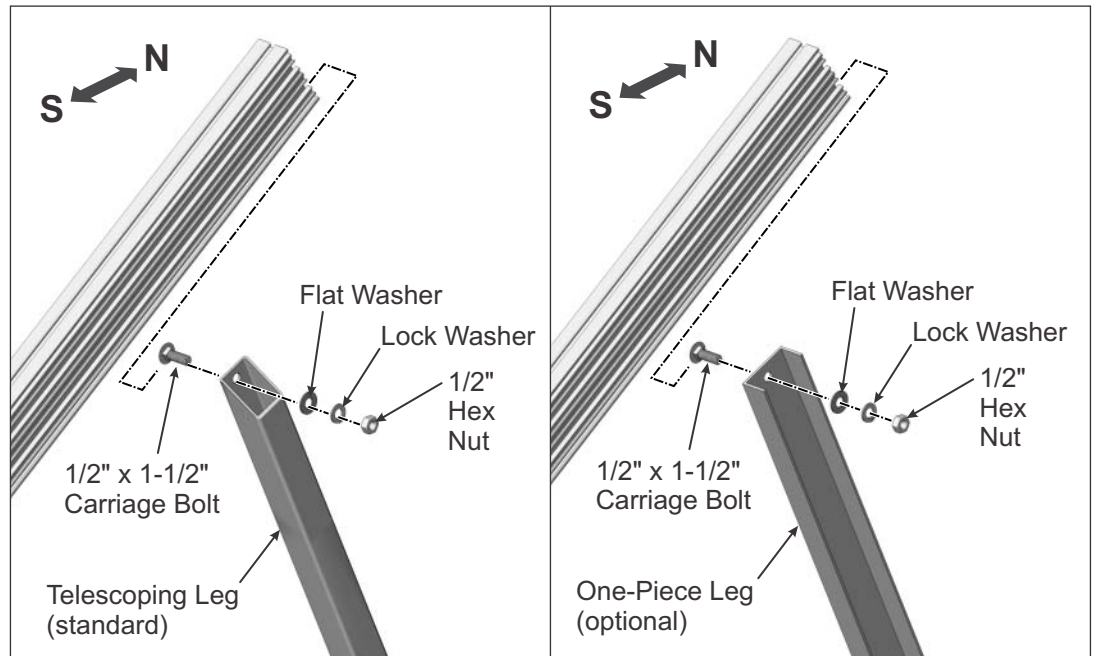

Figure 3-2: Attaching Leg to Strongback
- B. Align mounting hole of Leg to carriage bolt and secure with lock and flat washers and 1/2" hex nut. For now, finger tighten only. (See Figure 3-2)